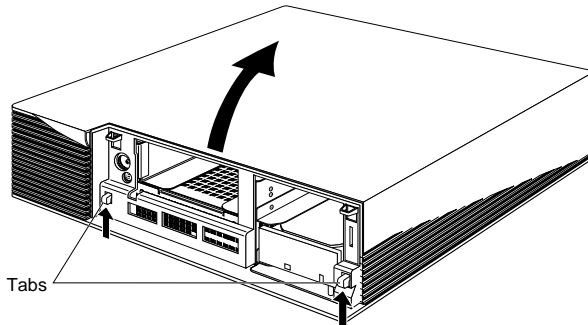

Figure 4-2 Removing the Top Cover From the Indigo² Chassis
- Rotate the cover back and away from the chassis, as shown in Figure 4-2.